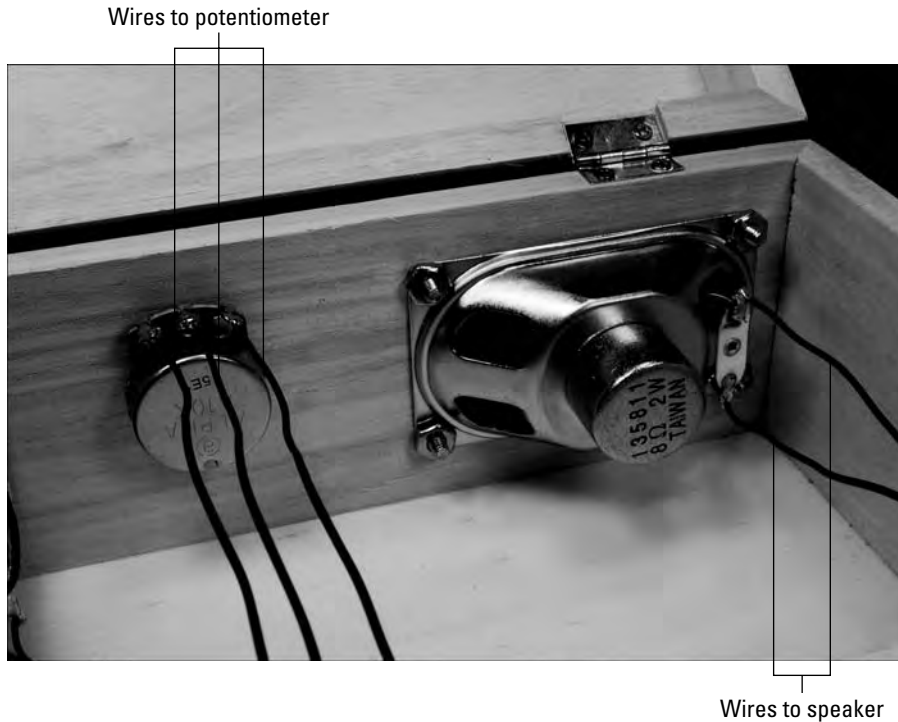

Figure 8-12:
13. Solder 8" wires to each of the three potentiometer lugs, as shown Figure 8-12.
14. Solder 8" wires to each of the two speaker lugs, as shown Figure 8-12.